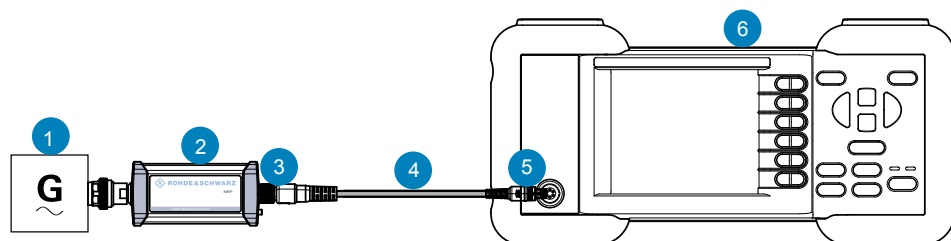

Figure 3-14: Configuration with an R&S NRP2 base unit
1. Connect the cables as shown in Figure 3-14: